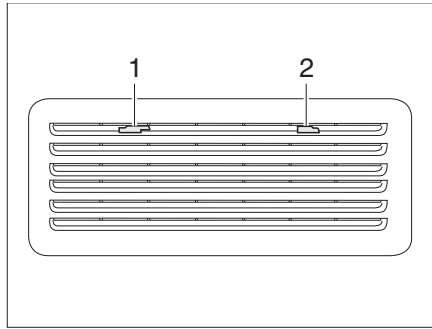

Fig. 316 Refrigerator ventilation grill (Thetford)
- Move the locking device (Fig. 316,1) to the middle.